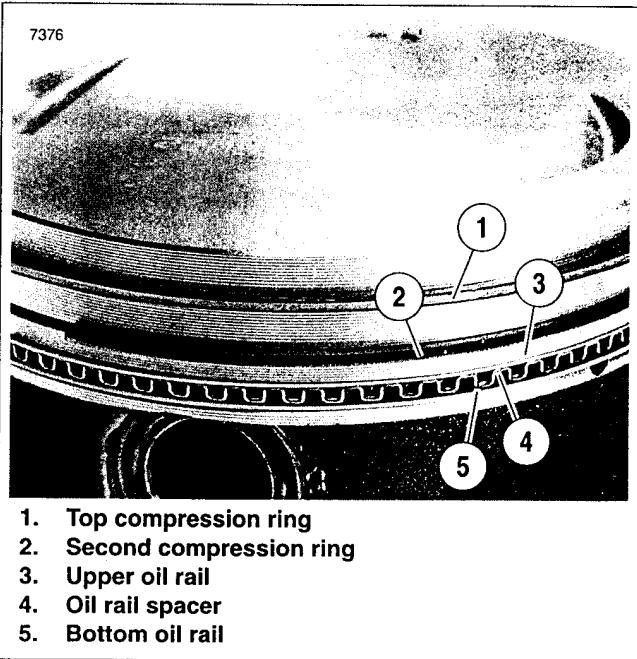

Figure 3-119. Piston Rings
- See Figure 3-119. Install piston rings as follows:
- Install oil rail spacer (4) into third ring groove.
- Spiral bottom oil rail (5) into space below oil rail spacer (4). Position gap 90 degrees from the gap in the oil rail spacer.
- Spiral upper oil rail (3) into space above oil rail spacer (4). Position gap 180 degrees from the gap in the bottom oil rail.